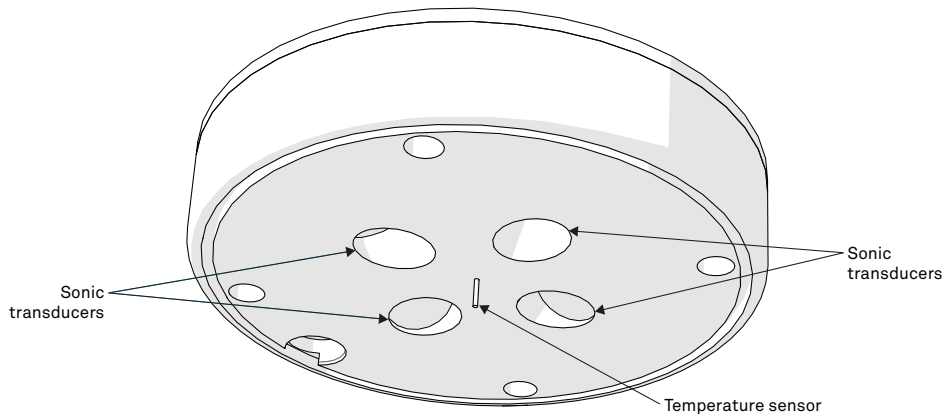

Figure 6 Temperature needle and sonic transducers
1. Make sure nothing is obscuring the temperature sensor or the sonic transducers shown in Figure 6 (cobwebs, leaves, wasp nests, etc.).
- **DO NOT** touch the temperature sensor needle (Figure 6).
- Avoid more than light pressure on the sonic transducers (Figure 6).
Do not allow water to enter the sonic transducers (Figure 6). Water may corrode the metal parts inside and ruin the transducers.